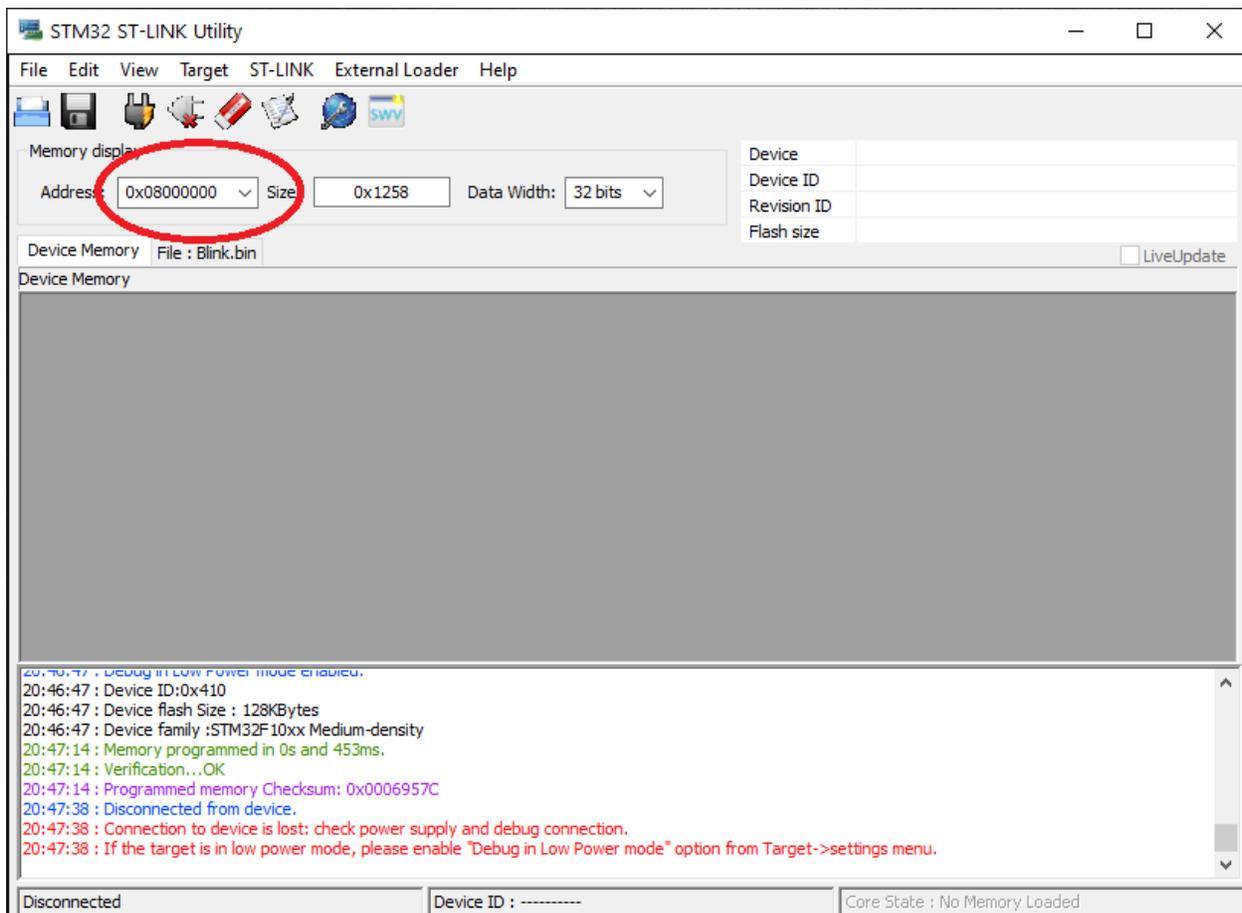

Figure 14 – ST-Link utility screen
3. Plug in the ST-Link V2 and start the utility. A screen looking somewhat like figure 14 will appear.